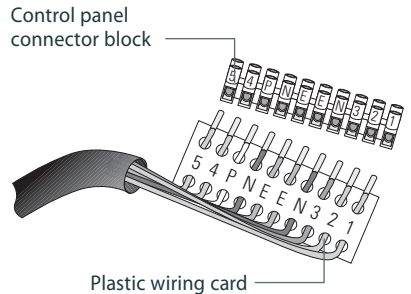

Fig. 3 Using the plastic wiring card to align the numbers/letters on the harness with those on the control panel connector block.
- 4 Connect the cooktop wiring harness by aligning the numbers/letters on the harness with those on the control panel connector block (see Fig. 3 below).